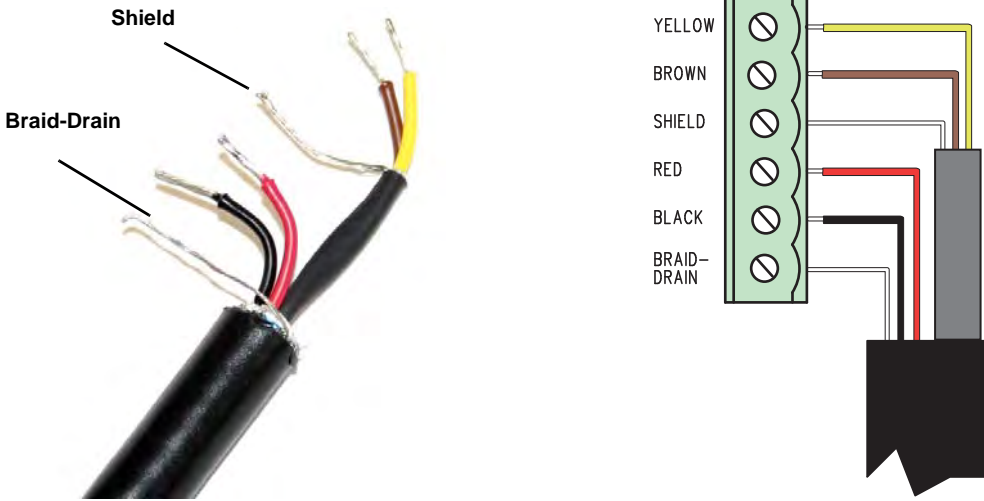
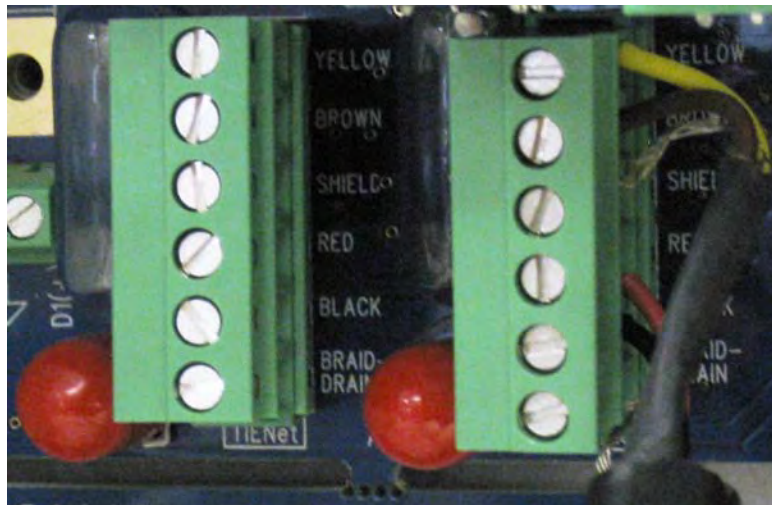
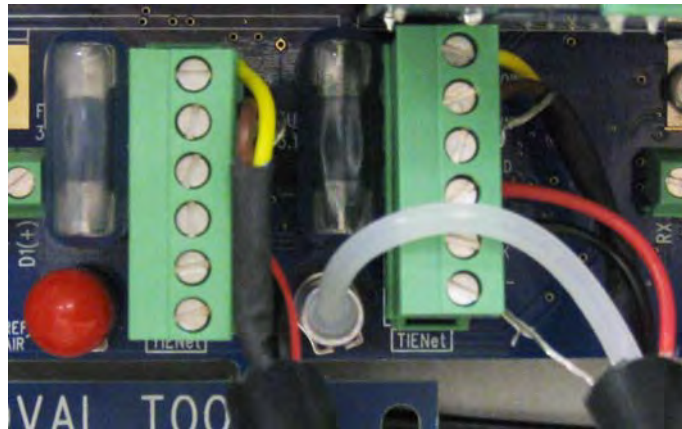

Figure 2-3 TIENet Device terminal connections
Figure 2-4 Attach wired terminal strip to case board socket
Figure 2-5 Position and secure the cable
4. Attach the wire ends to the terminal strip as shown in Figure 2-3, then press the terminal strip back down into its socket on the case board, as shown in Figure 2-4, taking care not to strain any wire connections. Gently tug each wire when finished, to verify secure connection to the screw terminals.
5. Press the terminal strip back down into its socket on the case board, as shown in Figure 2-5, taking care not to strain any wire connections. The 310 sensor cable does not include a reference air connection (Figure 2-4).